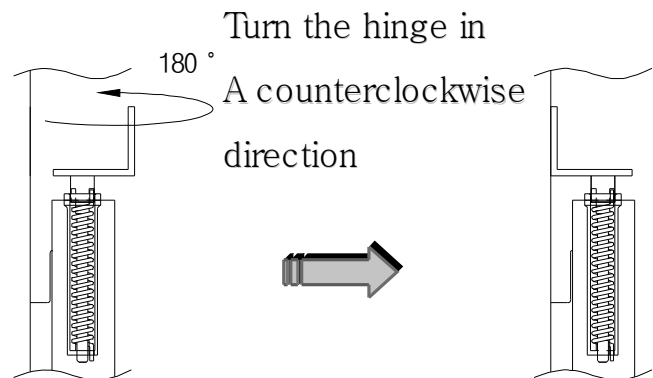

Figure 4.
- d) Install the Top Hinge (#7) as shown in figure 4–(SEE 146442 HINGE KIT)